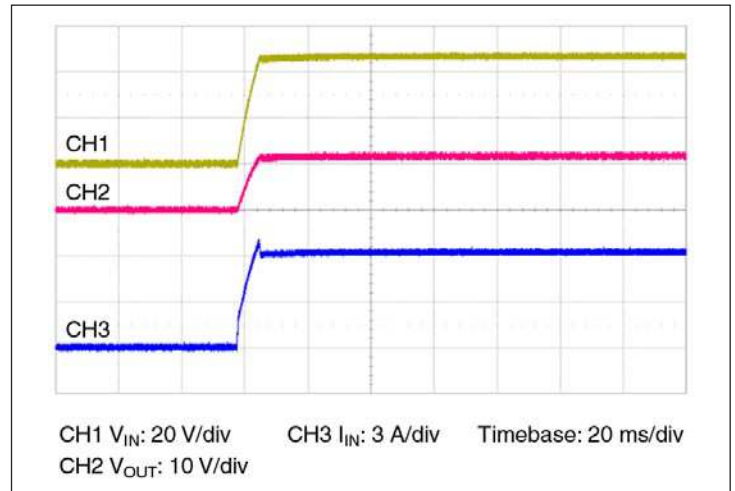

Figure 10 — Start up from application of V_{IN} ; VC pre-applied $C_{OUT} = 375 \mu F$
- Normal operation (VC applied prior to V_{IN}): In this case the controller is active prior to ramping the input. When the input voltage is applied, the VTM module output voltage will track the input (See Figure 10). The inrush current is determined by the input voltage rate of rise and output capacitance. If the VC voltage is removed prior to the input reaching 26 V, the VTM may shut down.